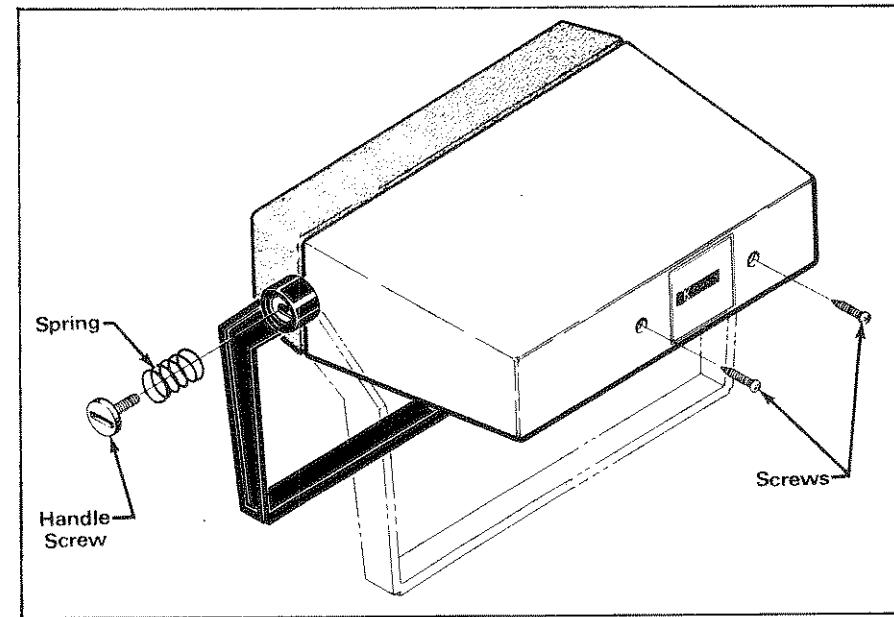

Fig. 24. Removal of rear case.
- Use a coin (a quarter works best) to remove the two screws that hold the handle to the case. Use caution to avoid losing the springs beneath the screws that hold the handle on the case. Remove the handle. The handle may be reversed if the user desires. Refer to Fig. 24.
- Use a coin (a quarter works best) to remove the two screws that hold the handle to the case. Use the springs beneath the handle to avoid losing the handle on the case. Remove the handle. The handle may be reversed if the user desires. Refer to Fig. 24.